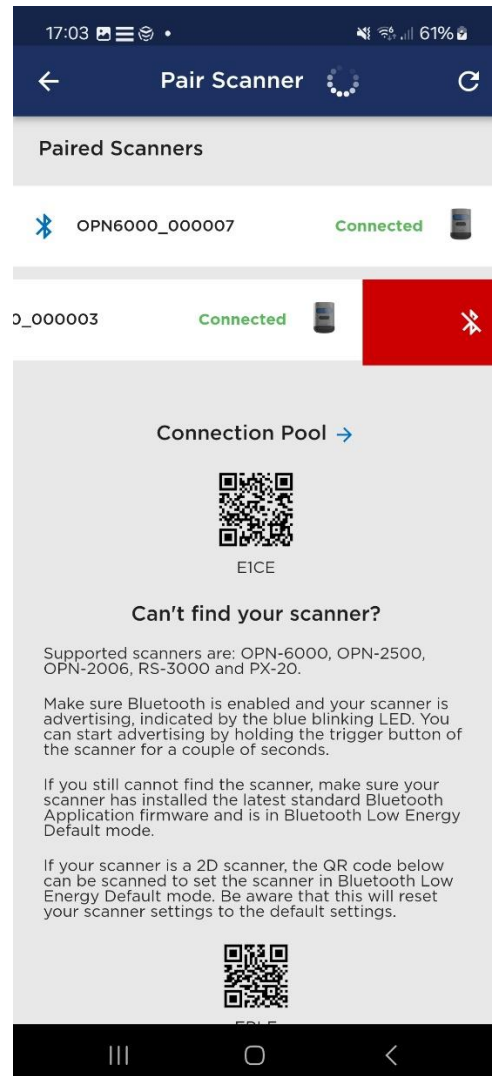

Figure 5-11: A connected scanner's row being dragged to the left to unpair and disconnect the scanner.
- **Drag to disconnect and unpair:** Drag the scanner's row under the Paired Scanners section entirely to the left (see Figure 5-11). This will disconnect and unpair the scanner, putting it in advertising mode and making it unavailable for auto-connection for three minutes to this device.